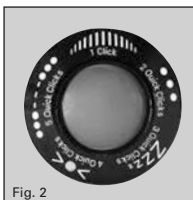

Fig. 2
**OPERATION:** Using the XL200™ flashlight’s pushbutton switch (in the tailcap), you can select one of 5 basic functions. These are summarized by icons on the tailcap as follows (see Fig. 2)